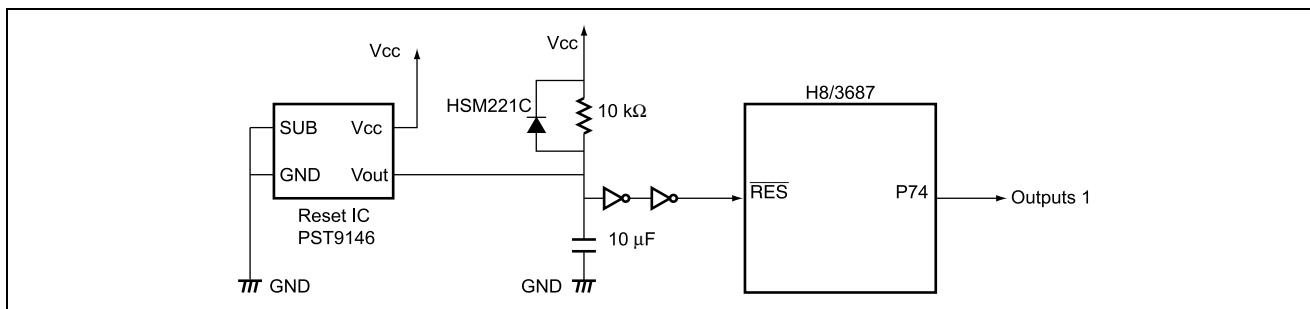

Figure 1.1 Microcomputer connections when using a Reset IC
1. A reset IC is connected to the H8/3687 externally to perform power-on reset operation. Figure 1.1 shows an example of a reset IC connection.